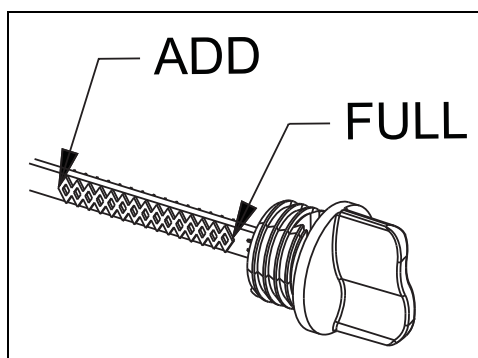

Figure 4-1: Checking Oil Level
6. Observe the oil level. The level should be at the "Full" mark on the dipstick/fill cap. See Figure 4-1.